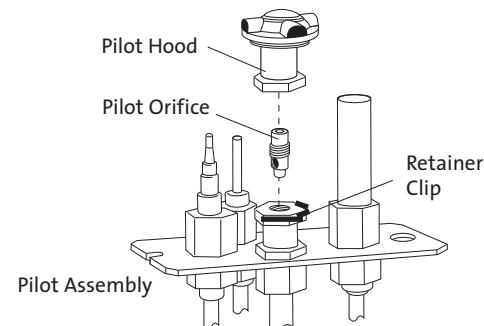

Figure 16. Pilot Orifice replacement.
- Disengage the Pilot Hood by releasing the retainer clip as shown in Fig. 16. Using a 4 mm hex key, unscrew the pilot orifice (counterclockwise). Replace with the orifice from the kit. Tighten new orifice securely into the base of the pilot assembly.